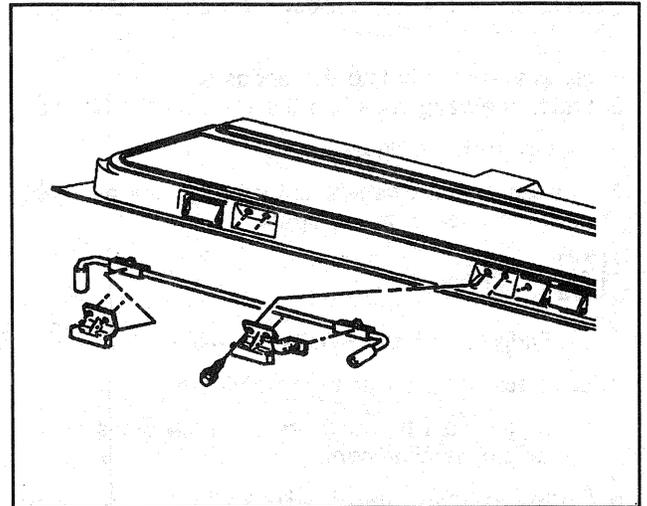

Figure 5—Torque Rod Replacement
**Remove or Disconnect (Figure 5)**
**Install or Connect (Figure 5)**